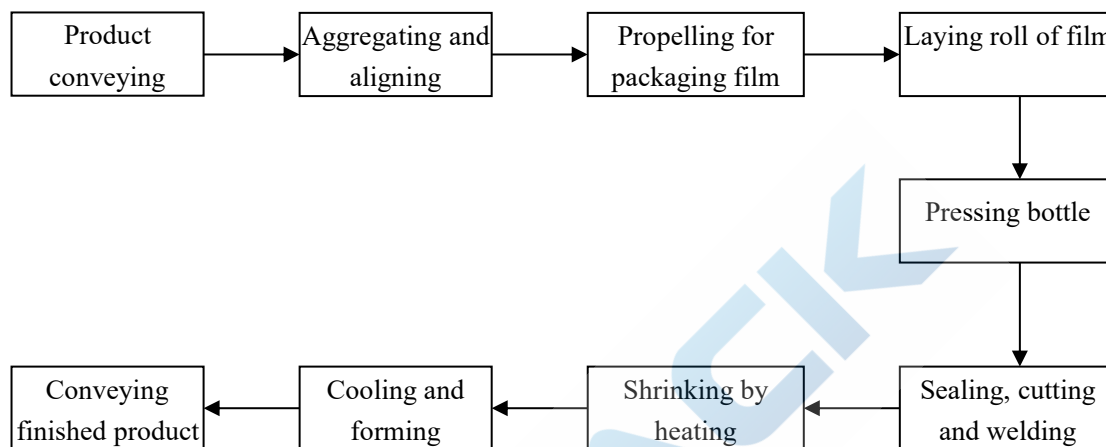

Figure 1 Technological flow chart
2. Technological flow (see Figure 1)